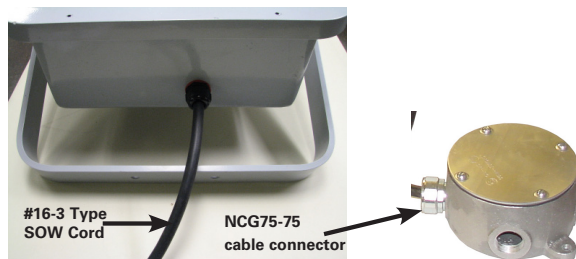

Figure 5 - Wall Mount with Outlet Box
3. Install one end of a length of #16-3 type SOW portable cord (or other extra hard usage portable cord) into the GRFX outlet box using a Crouse-Hinds series NCG75-75 cable connector. See Figure 5. The cord length required will allow ample slack to adjust the aiming angle of the floodlight.